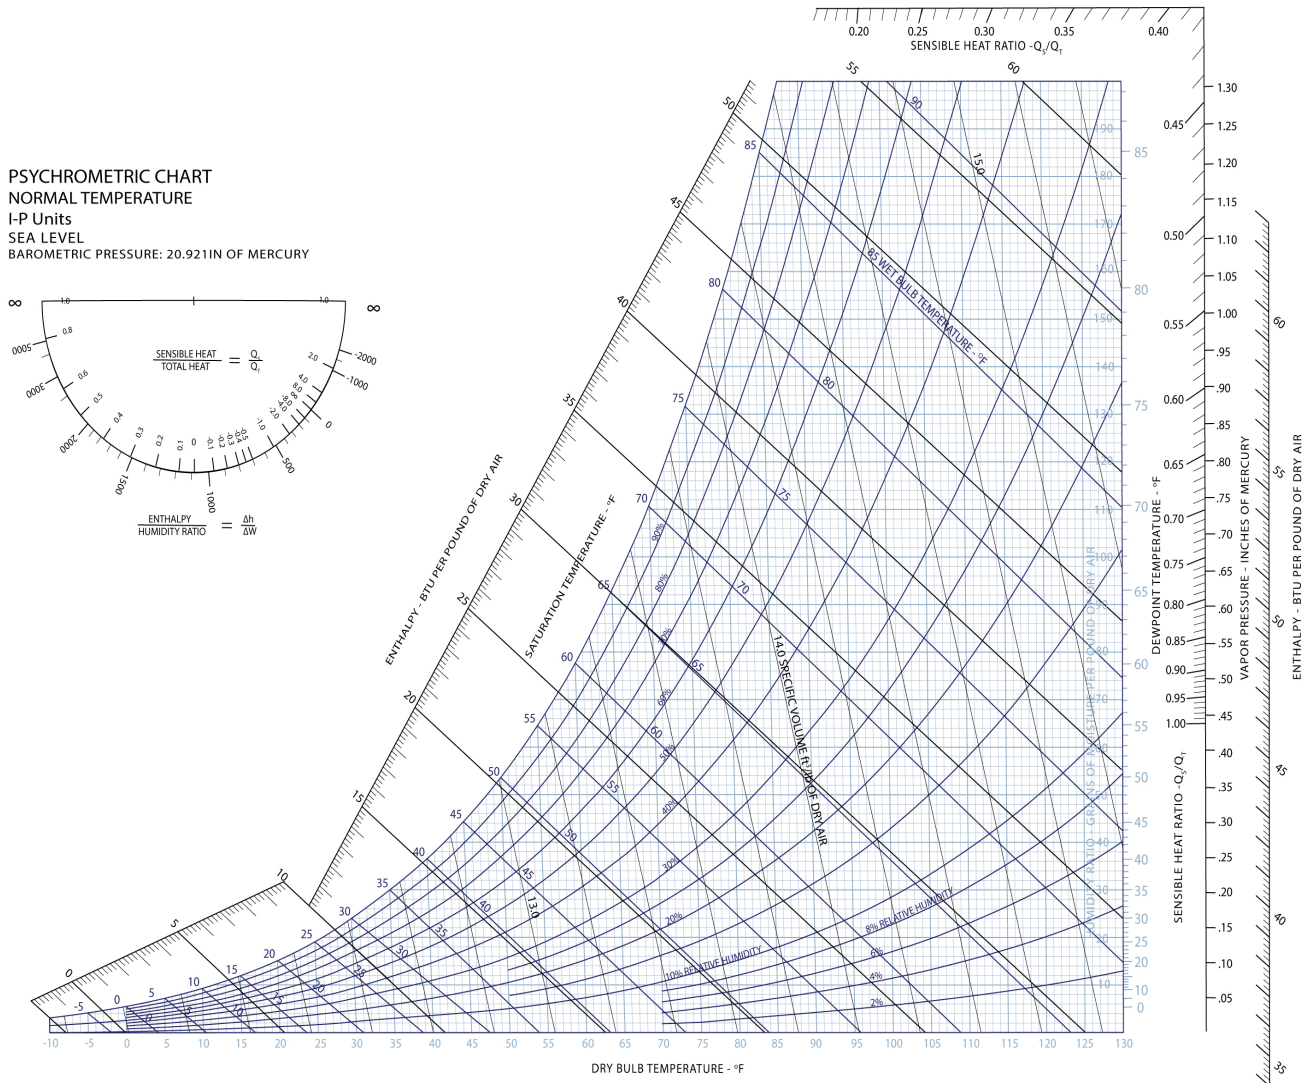

Figure 1: Psychrometric Chart
C) Absolute humidity (moisture content): Absolute Humidity can be expressed in several different units, commonly as Grains/lb or Lbs of water /lb of dry air. Absolute humidity in Grains/lb of dry air, dry air is shown in Figure 1 on the right hand vertical axis. From there, the lines with  $X = \text{constant}$  run horizontally across the chart right to left.